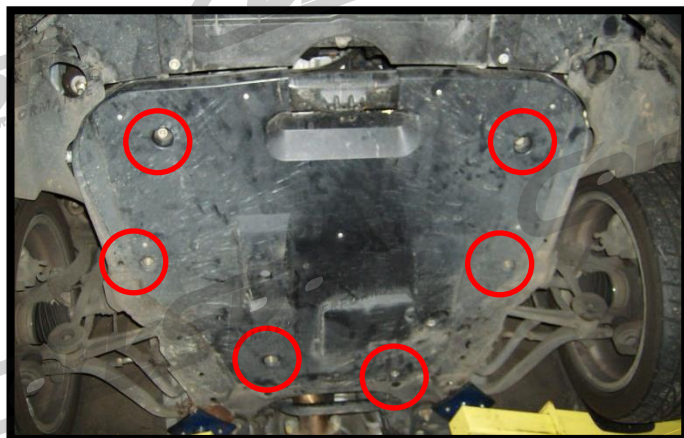

Figure 1a
- b) Remove the six (6) 10mm headed bolts securing the under tray and remove the under tray (red circles in Figure 1a).